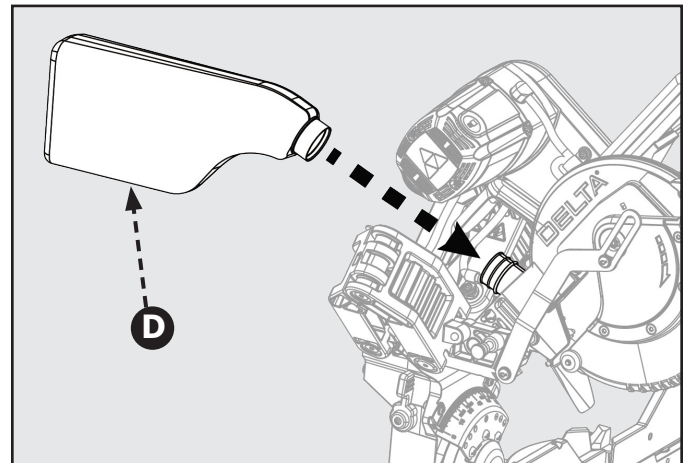

Figure 9
The Tool includes a dust collection bag (D) that attaches over the exhaust port on the upper blade guard. Slide the plastic collar onto the dust exhaust port on the back of the saw head. See Figure 9